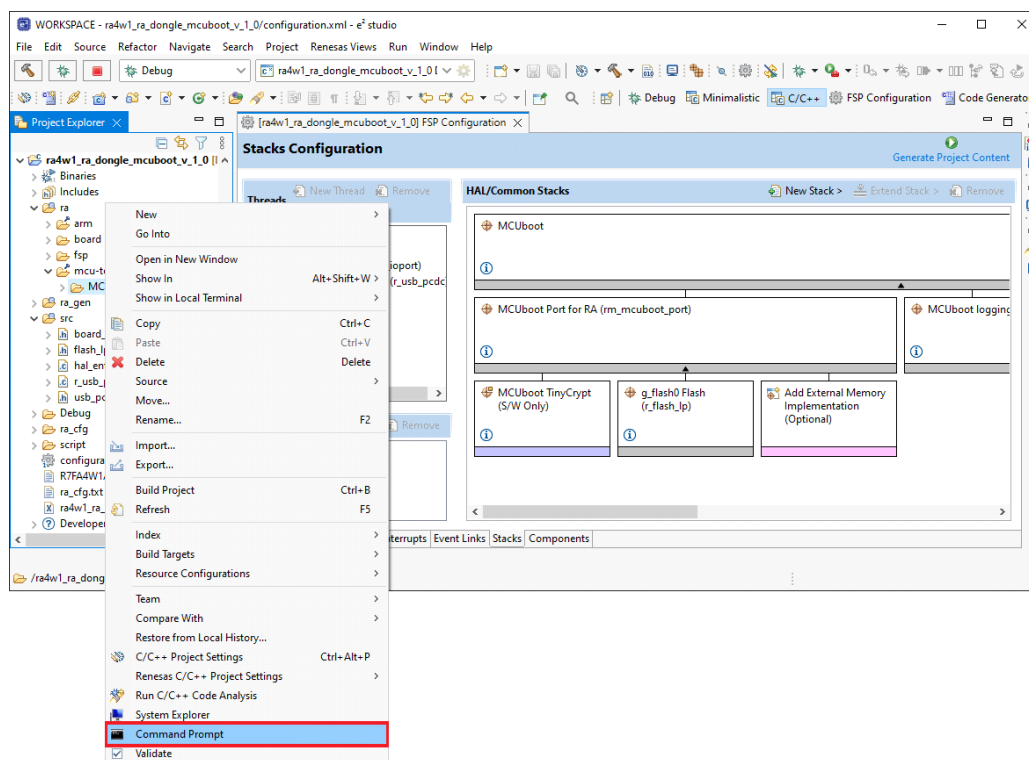

Figure 20. Opening Command Prompt in the MCUBOOT Folder
- In the e² studio Project Explorer, navigate to the **ra4e1_iso_dongle_mcu-boot_v_1_0\ra\mcu-tools\MCUBOOT** folder (Figure 20).